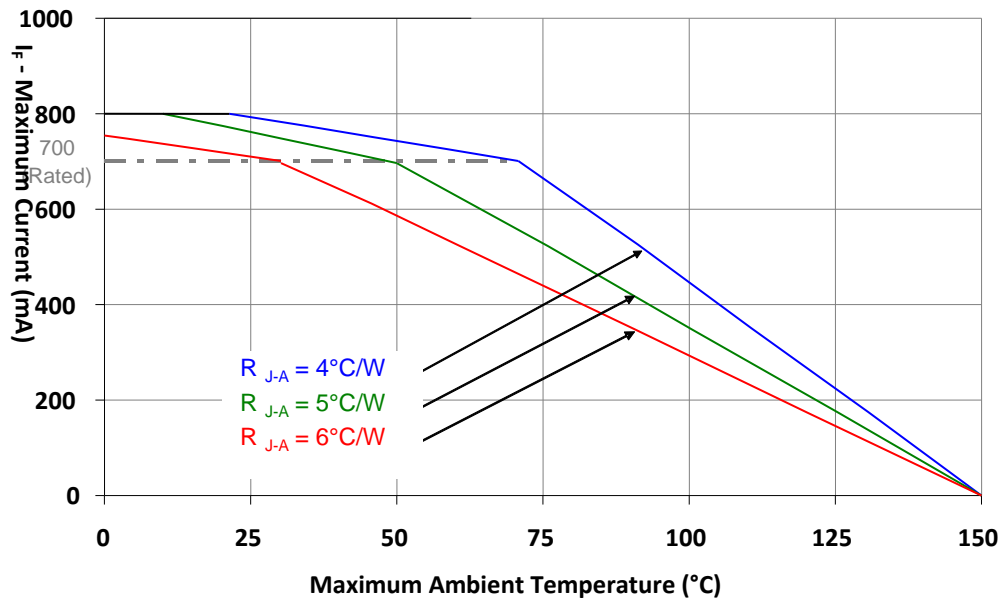

Figure 10: Maximum forward current vs. ambient temperature based on $T_{j(\text{MAX})} = 150^\circ\text{C}$.
- Maximum DC forward current (per die) is determined by the overall thermal resistance and ambient temperature. Follow the curves in Figure 10 for current de-rating.
Notes for Figure 10: